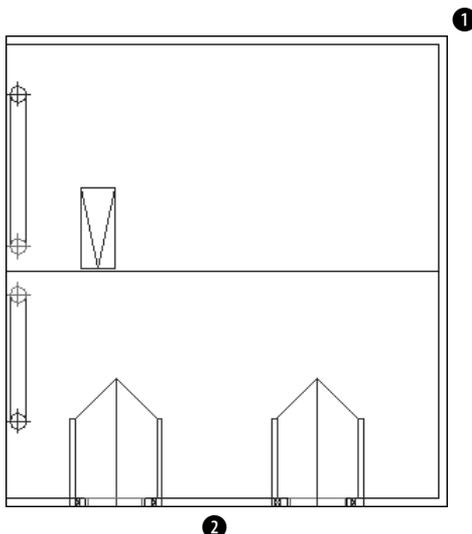

Figure 10-25: A plan view of a garage.
2. Save the file as `ab10-08.dwg` in your AutoCAD Bible folder. This drawing is the plan view of a garage, as shown in Figure 10-25. Turn on polar tracking by clicking POLAR on the status bar. Click SNAP on the status bar and then right-click SNAP to make sure PolarSnap is on (the PolarSnap item will be unavailable if it is already on); otherwise, choose PolarSnap. Turn on OSNAP and set a running object snap for endpoints.
3.  Choose Stretch from the Modify toolbar. At the Select objects: prompt, pick **1** in Figure 10-25. At the Specify opposite corner: prompt, pick **2**. The prompt notifies you that it found 32 objects. Press Enter to end object selection.